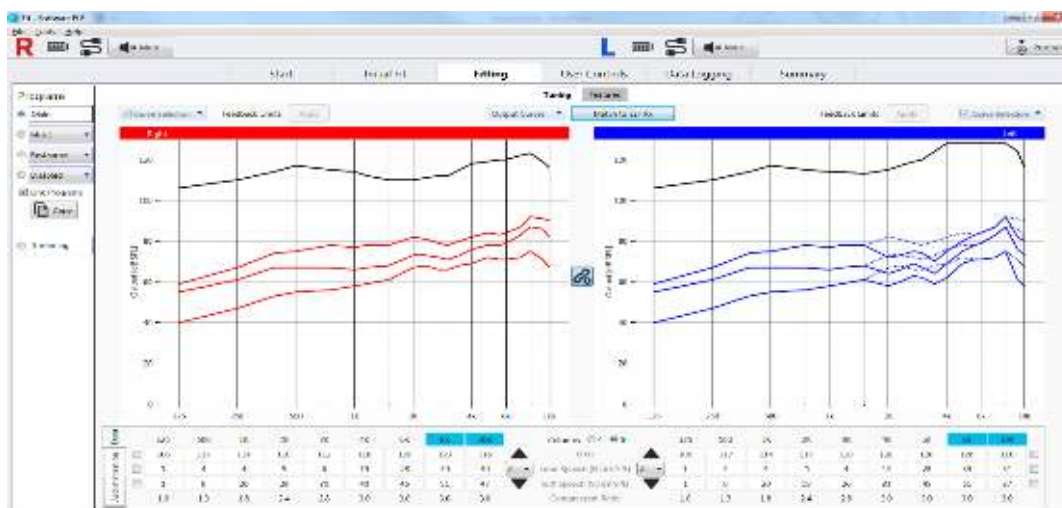

Figure 23. Fine Tuning: Output Curves displaying feedback limits applied for the left ear
- If the maximum stable gain interacts with the gain prescription, gain limits will be automatically applied to the Current Fit Response to prevent feedback (Figure 23).